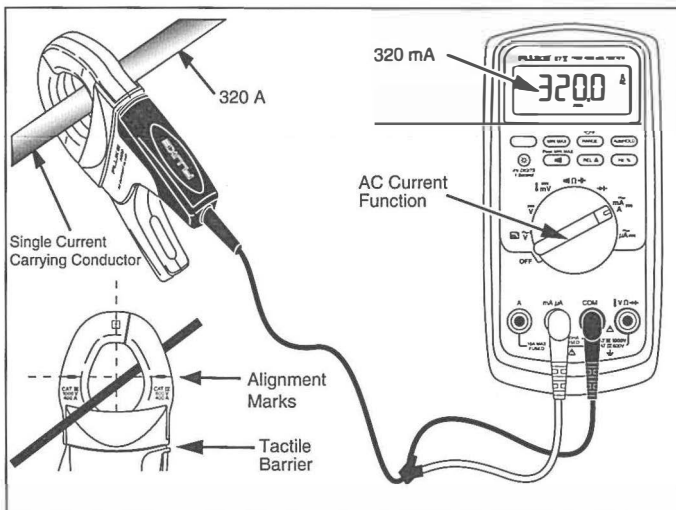

Figure 1. i400 Setup
- Do not hold the Current Clamp anywhere beyond the tactile barrier, see Figure 1.
To use the i400, (refer to Figure 1):
3. Clamp the i400 around the current-carrying conductor to be measured. Make sure the jaws are tightly closed around the conductor. The Current Clamp is designed for highest accuracy when the conductor is centered on the jaw's alignment marks, see Figure 1.
**To avoid shock or personal injury, keep fingers behind the tactile barrier, see Figure 1.**
4. Multimeter readings displayed in milliamps (mA) can be read directly as amperes of input current. Readings displayed in amperes (A) must be multiplied times 1000 to obtain the amperes of input current.